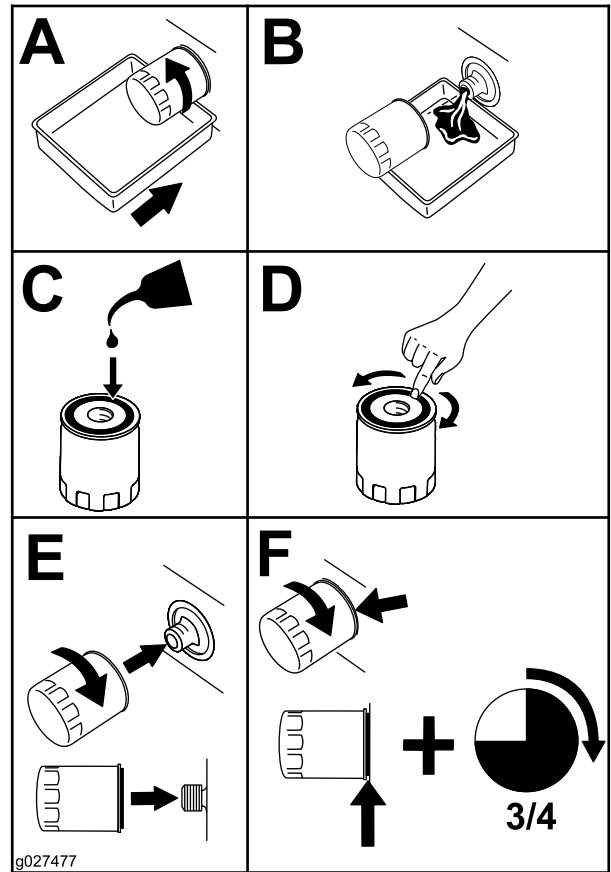

Figure 41
5. Change the engine-oil filter (Figure 41).